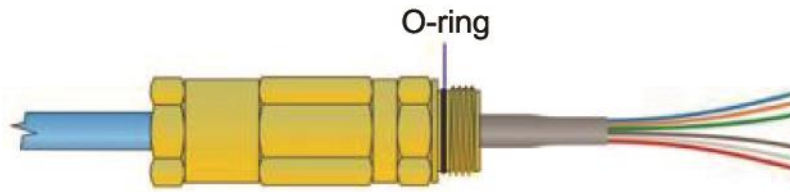

Figure 5-5 Optical Stub Cable Sealing
- d) Mount the "waterproof pipe" and place the fiber cable end in the optical fiber module. The sealing O-ring must be on the connector and in good condition. Apply heat shrink tubing or sealing tape (Figure 5-5).